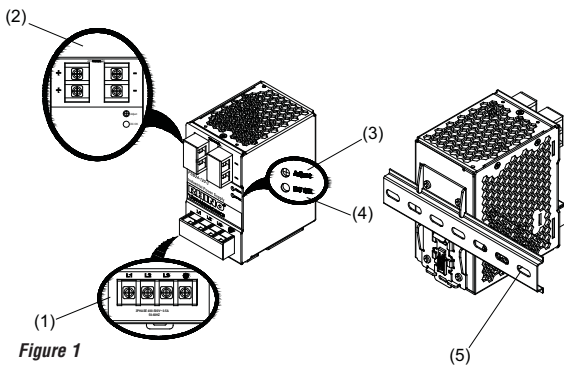
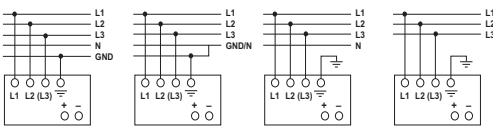

Figure 1
Figure 5
## 2. Device description (Fig. 1)
### 5.1. Input connection (Fig. 1, Fig. 5)
Use L1, L2, L3 and GND connections of input terminal connector (see Fig. 5) to establish the 3 x 400-500 VAC connection. Figure 5 shows the connection to the various network types.
### 5.2. Output connection (Fig. 1 (2))
The green LED DC OK displays correct function of the output (Fig. 1 (4)).